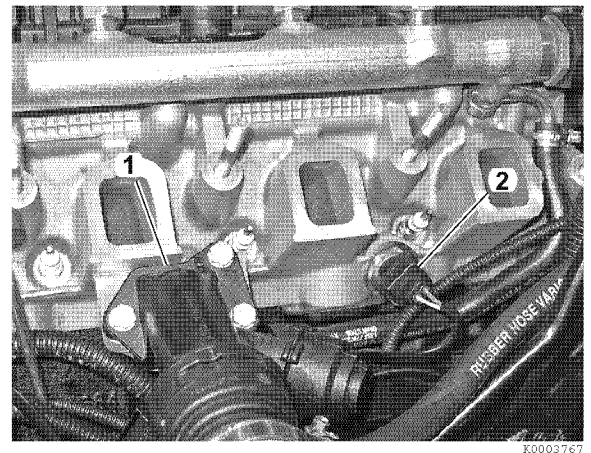

Figure 5-13
15. Remove three bolts and the coolant branch fitting (1, **Figure 5-13**).
16. Disconnect electrical connector from the coolant temperature sensor (2, **Figure 5-13**).